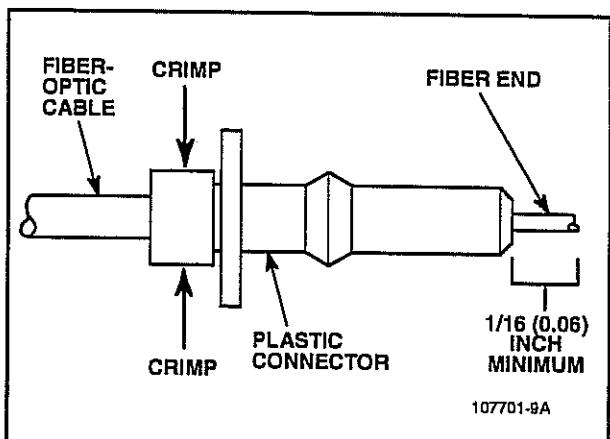

Figure 5-55. Adjust Fiber and Crimp.
3. Place the crimp ring and connector over the end of the cable as shown in Figure 5-55; the fiber should protrude about 1/8 (0.12) inch through the end of the connector.